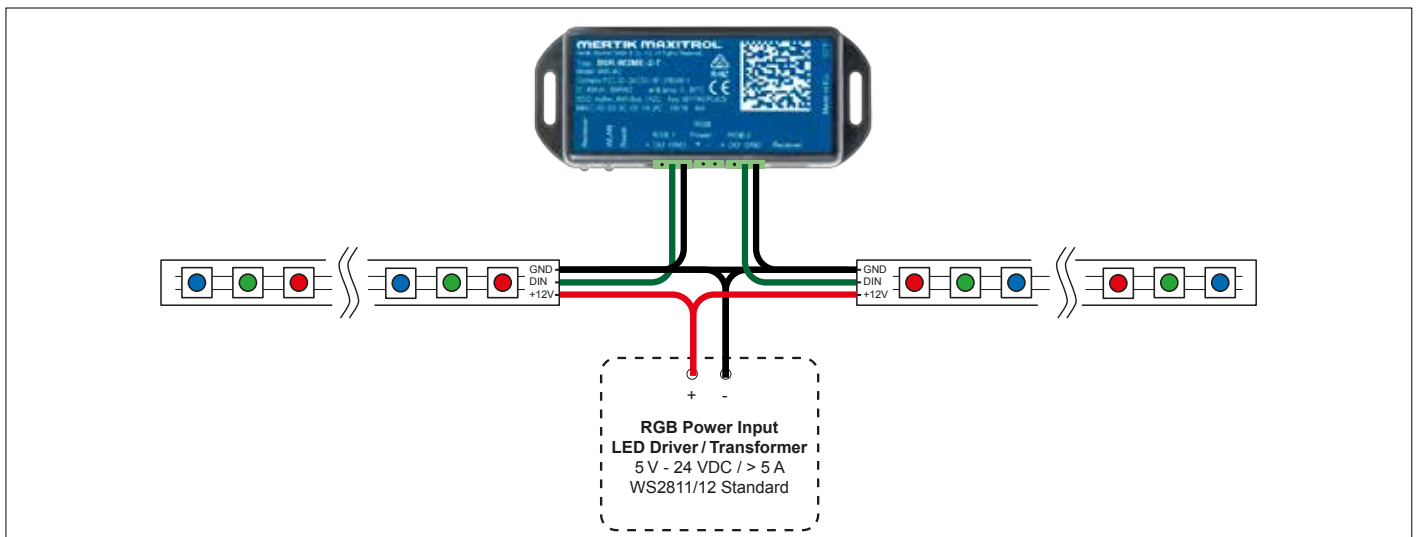

Figure 26: LED setup 2 (Indirect connection)
- Connection of data output (DO) and ground (GND) from the LED RGB control output of the Wi-Fi Box to the RGB LEDs. (see figure 26, page 24)